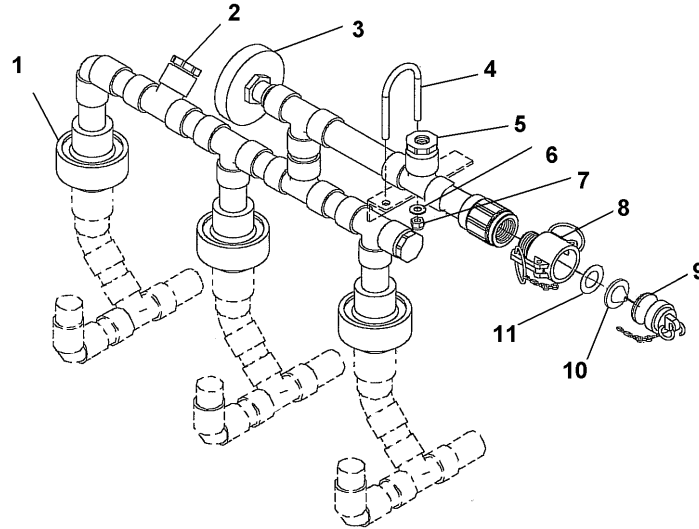

Figure 2. UF Feed Piping.
1. Loosen the three unions (1). Remove the lock nuts (7) and washers (6) from U-bolt (4). See Figure 2.